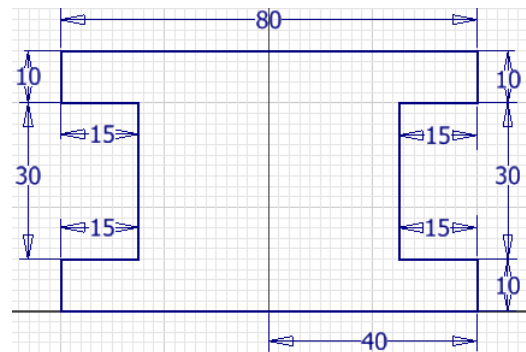

Figure 2-99(f) Dimensioning the sketch
9. Draw a rectangle using the **Two-Point Rectangle** tool, as shown in Figure 2-99(g).